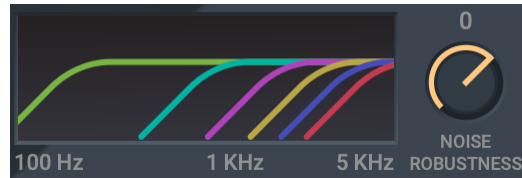

Figure 18: Noise Robustness control in Beamformer tab.
1. **Noise Robustness:** For robustness reasons, all modal beamformer patterns transition towards lower orders with decreasing frequencies. The graphic next to the *Noise Robustness* dial (compare Figure 18) shows abstracted highpass filters to provide an idea of the transition frequencies for the different orders (1 to max. order). A higher *Noise Robustness* will result in higher transition frequencies and therefore a reduction in the Directivity Index. On the other hand, a lower *Noise Robustness* will result in a higher Directivity Index but also in higher noise levels (lower SNR). Note that the Noise Robustness setting will be inactive if “Low Noise Cutoffs” are selected for the Ambisonic signals (compare Section 5.3.2). That is because the “Low Noise Cutoffs” setting results in a similar or better noise robustness than the Noise Robustness control in the modal beamformer can provide.